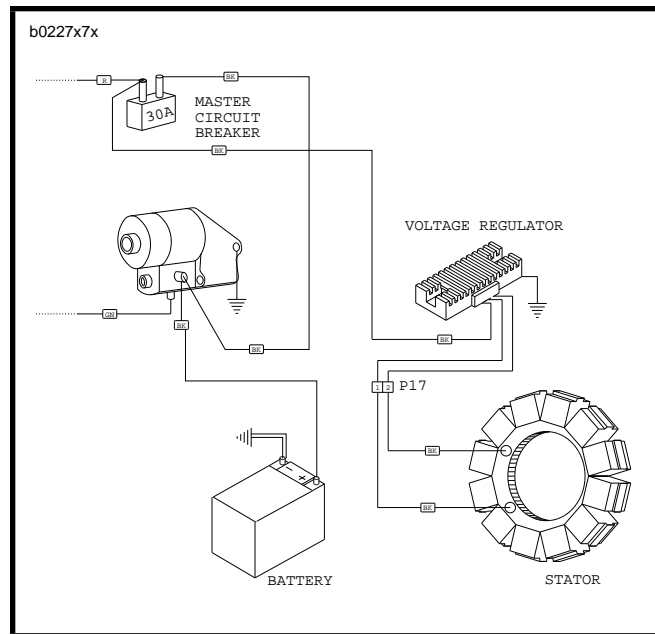

Figure 7-29. Voltage Regulator Connector [P17]
2. See Figure 7-29. Disconnect voltage regulator connector [P17] from alternator stator wiring.